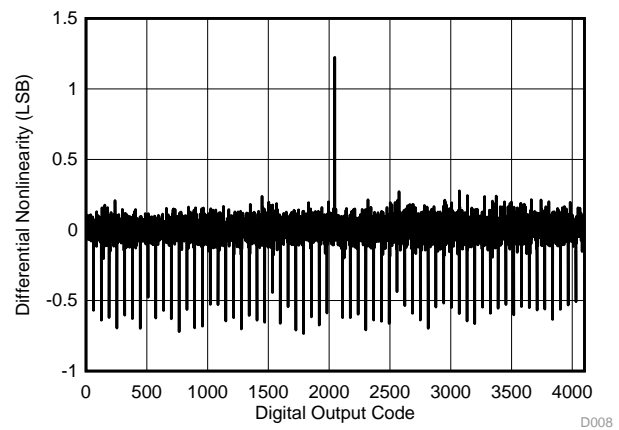

Figure 5-7. SoC ADC, Differential Nonlinearity vs Digital Output Code
(1) Using IEEE Std 1241™ 2010 for terminology and test methods.
(2) Input signal scaled down internally before conversion, as if voltage range was 0 to 4.3 V. Applied voltage must be within Absolute Maximum Ratings (Section 5.1) at all times.
(3) No missing codes. Positive DNL typically varies from 0.3 to 1.7, depending on the device (see Figure 5-7).